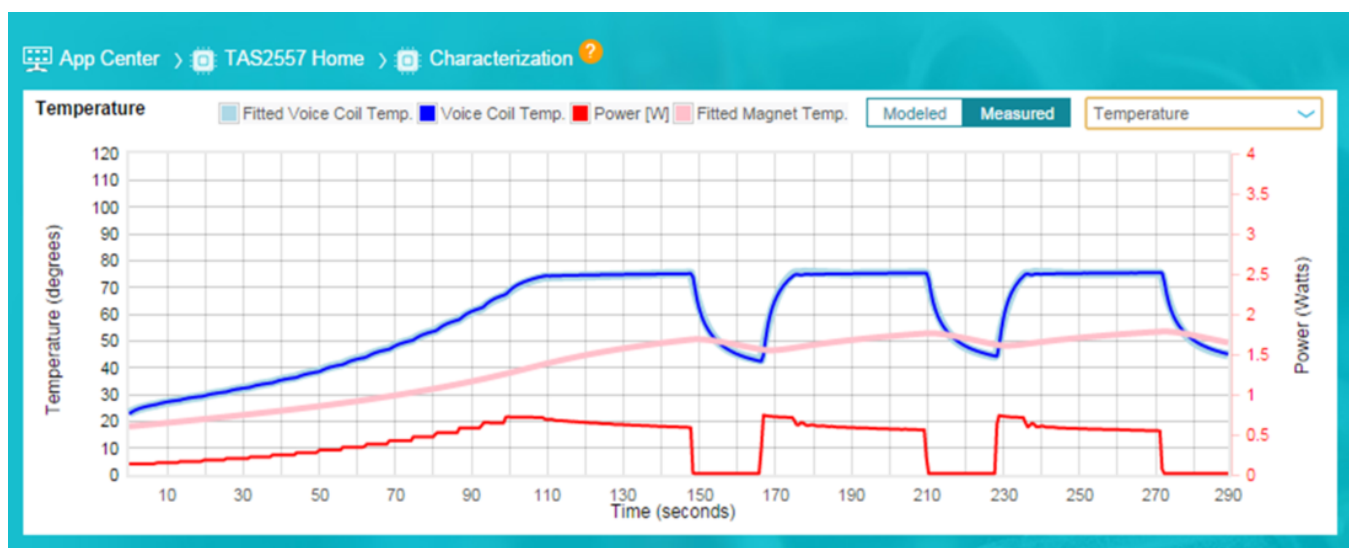

Figure 18. Temperature Plot
- The Temperature Plot from the characterization will look similar to Figure 18. Ensure there the speaker heats up to the maximum temperature of the speaker which is 75°C in Figure 18.